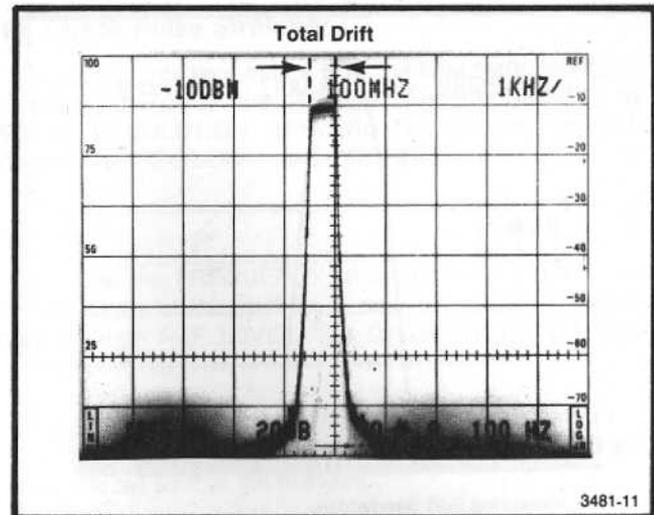

Fig. 3-11. Digital stored display showing drift.
e. Check the signal stability or drift over the specified time period. Drift will appear as the width of the response less the resolution bandwidth (see Fig. 3-11) after the specified time period.